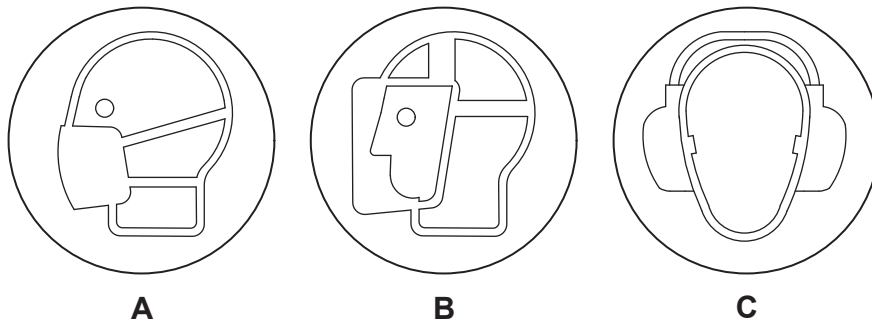

Fig. 6.1
- 6 Fig. 6.1 shows three safety symbols that may be found in a workshop.